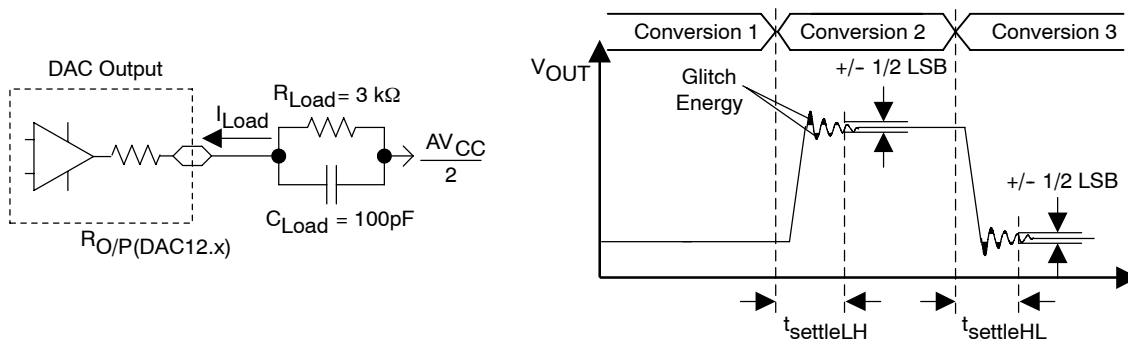
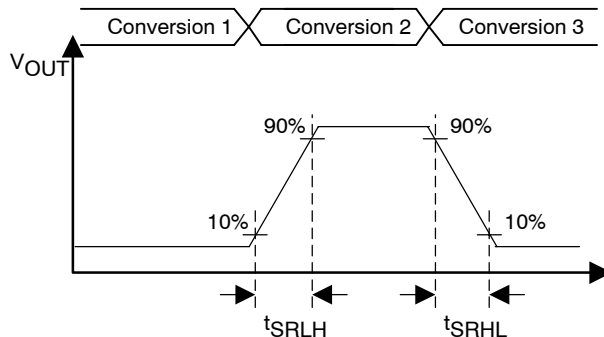

Figure 45. Settling Time and Glitch Energy Testing
Figure 46. Slew Rate Testing
12-bit DAC dynamic specifications, $V_{ref} = V_{CC}$, DAC12IR = 1 (see Figure 45 and Figure 46)
- NOTES: 1. R_{Load} and C_{Load} are connected to AV_{SS} (not $AV_{CC}/2$) in Figure 45.